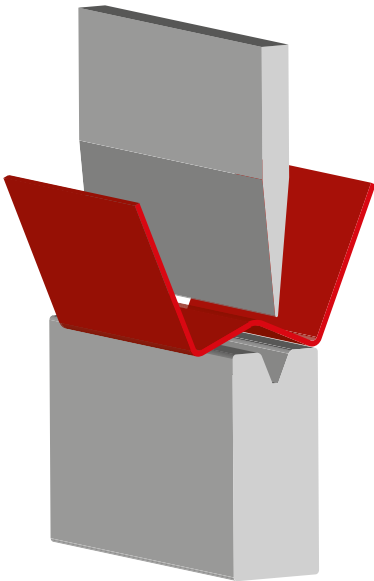

Fig. 8.16
- Smaller shapes are possible with counterpressing. Ask us for more information. Bear in mind that this results in a slight distortion. (Fig. 8.16)